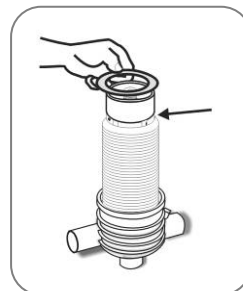

Figure 7
8. Check that the correct quantities of discs are assembled on the spine (Figure.7)